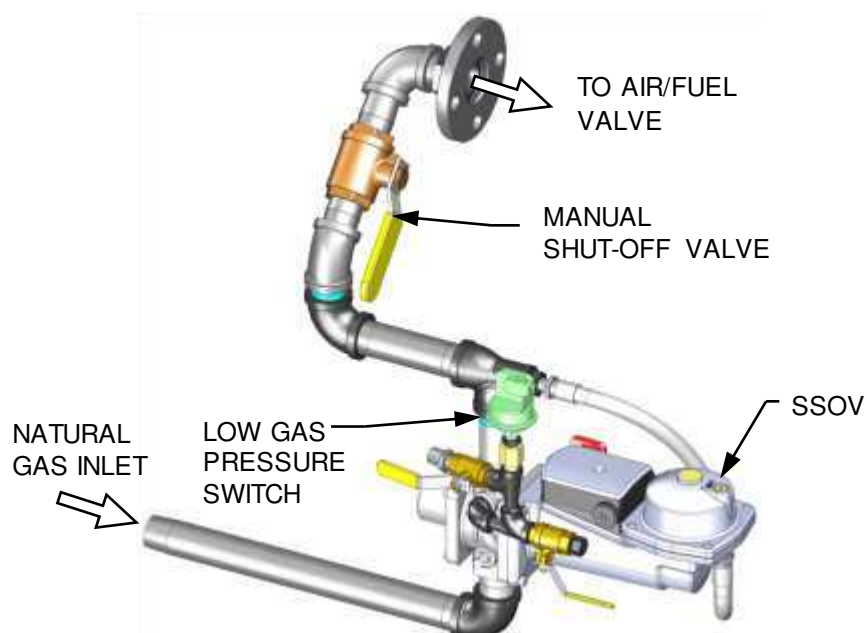

Figure 3-1a: BMK750 & 1000 SSOV Location (P/N 22322 shown)
2. The unit checks all five pre-purge safety switches listed at the beginning of this section. The Edge Controller's ignition sequence screen walks you through the ignition screens and demonstrates (or highlights) which switches are not met. SSOV locations are shown in Figure 3-1a through 3-1d.